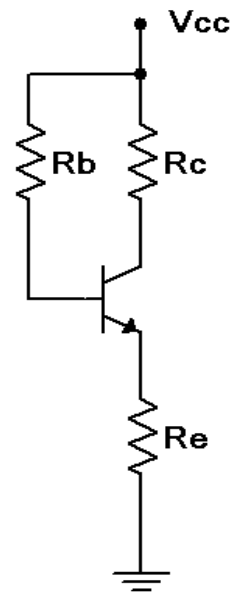

Figure 7.2
8. Consider the circuit of Figure 7.2 using  $V_{cc} = 12$  volts,  $R_b = 220\text{ k}\Omega$ ,  $R_e = 470\ \Omega$  and  $R_c = 330\ \Omega$ . Determine the ideal end points of the DC load line and the Q point, and record these in Table 7.5.
10. Build the circuit of Figure 7.2 using  $V_{cc} = 12$  volts,  $R_b = 220\text{ k}\Omega$ ,  $R_e = 470\ \Omega$  and  $R_c = 330\ \Omega$ . Measure the base, emitter and collector voltages and record them in the first row of Table 7.6 (Experimental).